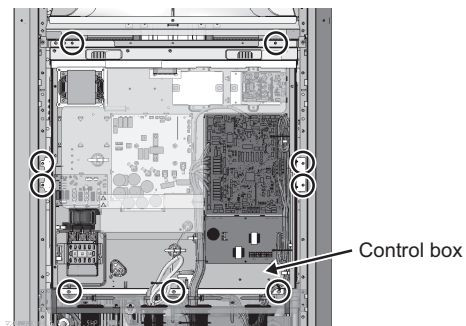

Fig. 3
- (3) Remove the control box. (Nine screws: Fig. 3)